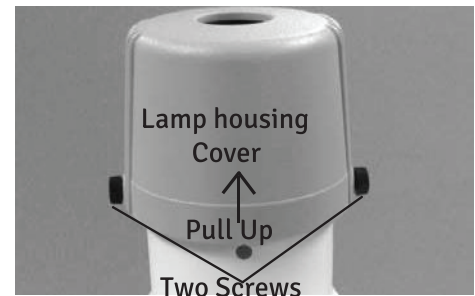

Figure CM-03 Remove cover
2. Remove the lamp Housing Cover by loosening the Two Screws securing the Cover and lifting it straight off. Refer to figure CM-03.